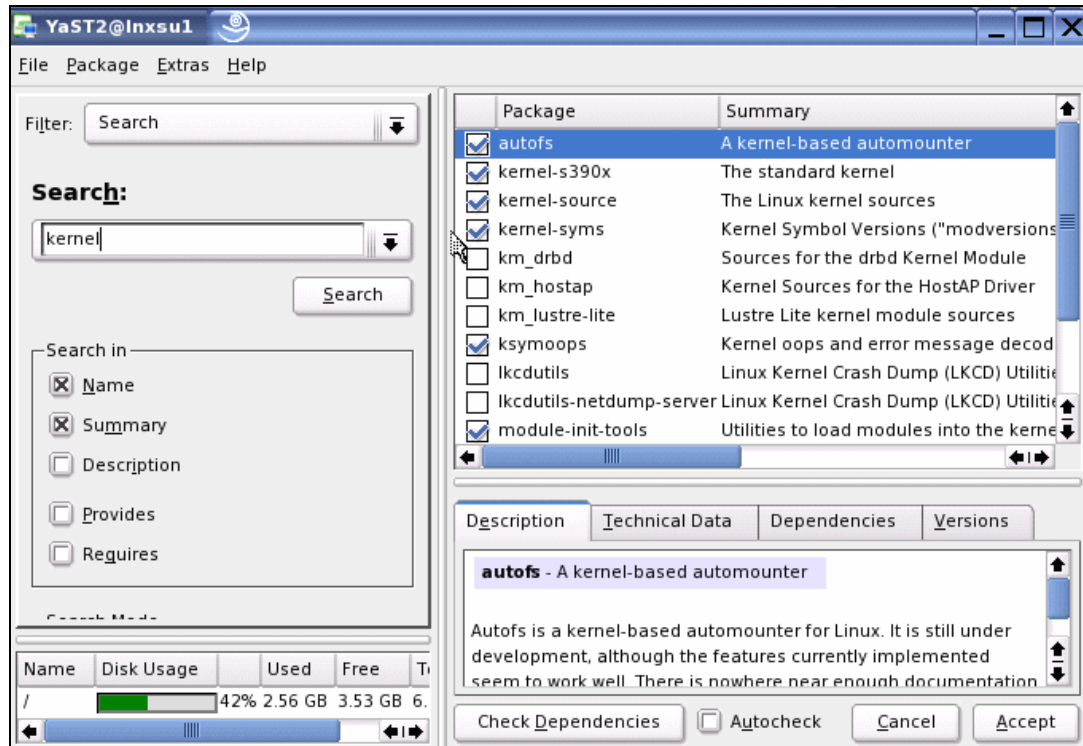

Figure 10-8 YaST2 Search packages screen
4. At the search screen, we entered the package name and clicked **Search**. All packages with the requested name were listed, as shown in Figure 10-8 on page 293.